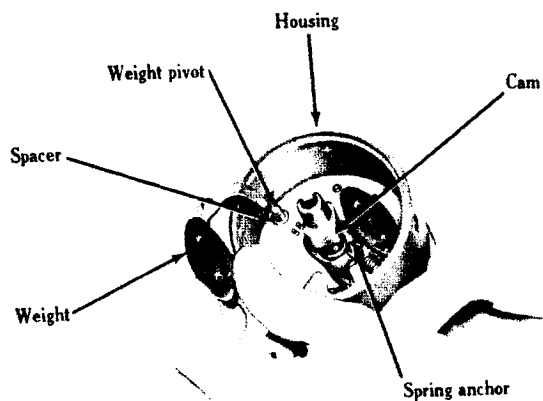

Fig. 12 - Removing Weights.
14. Lift out the governor weight arms and spacers (Fig. 12).
11. Install the governor weights on the pivot so that the spring anchor is closest to the weight (Fig. 12).